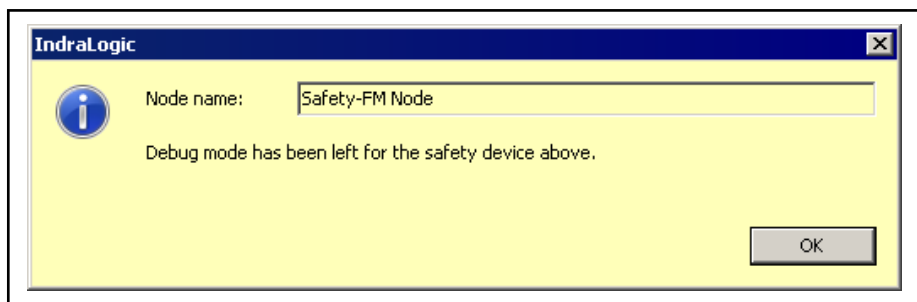

Fig. 8-5: Dialog for logout with loading the boot application
- You are logged into the application (see fig. 8-5 "Dialog for logout with loading the boot application" on page 120) and there is no boot application on the safety control: